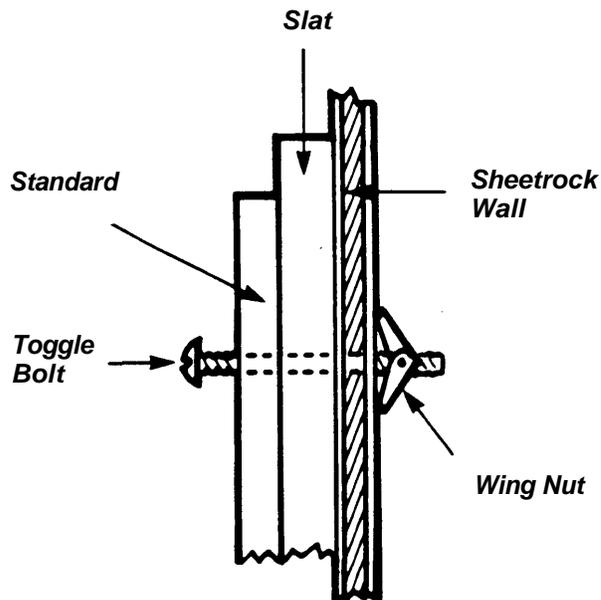

Figure 3.
- b. If you are mounting the standards on a **sheetrock** wall, use a ½" drill bit to drill all eight holes. Insert a toggle bolt through each of the holes of one standard and slat and thread a wing nut onto the ends of the bolts. Fold the wings of the nuts together and push the bolts through the holes in the wall until the wings spring open. Pull the slat and the standard back toward you to hold the nuts against the inside wall; tighten the bolts. Repeat this procedure with the other slat and standard (Figure 3).